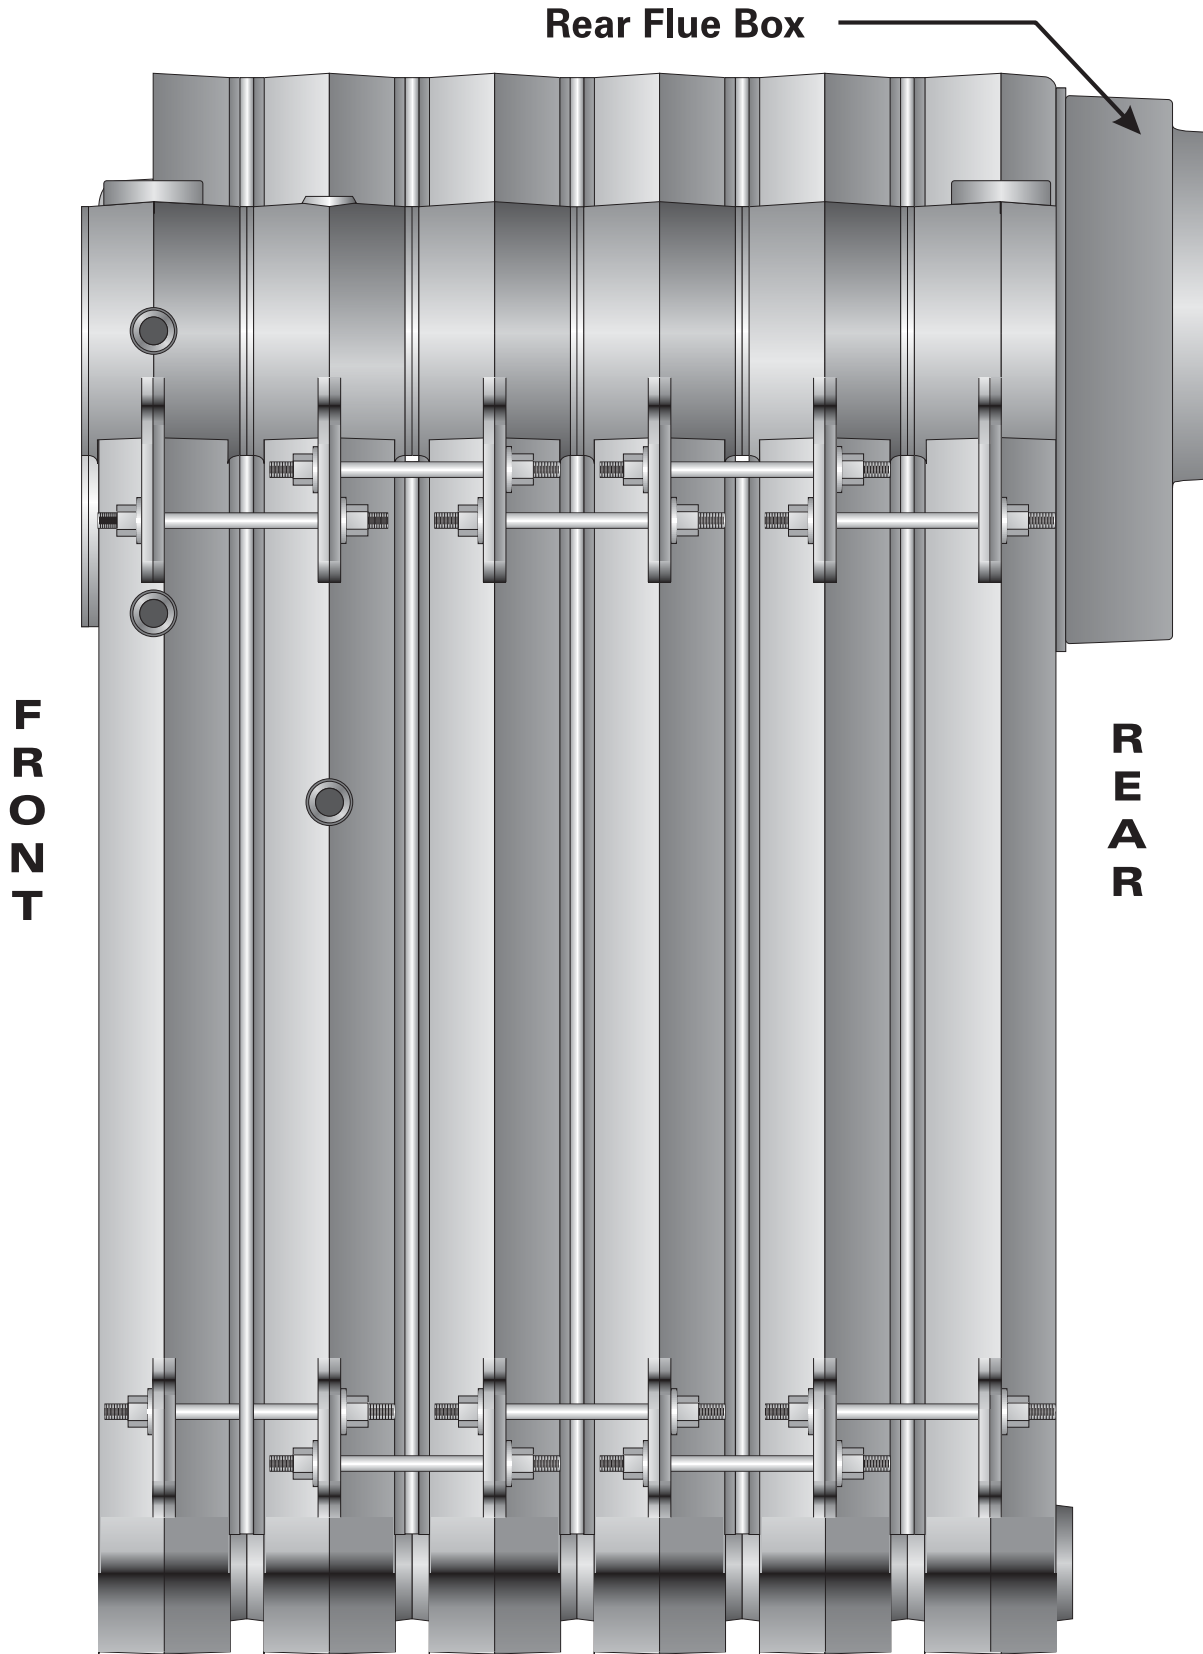

Figure 2.5: Series LC Boiler Assembly – Right Side View
14. Insert a tie rod with one nut and washer applied into each of the four tie rod lugs. See Figures 2.5 and 2.6.